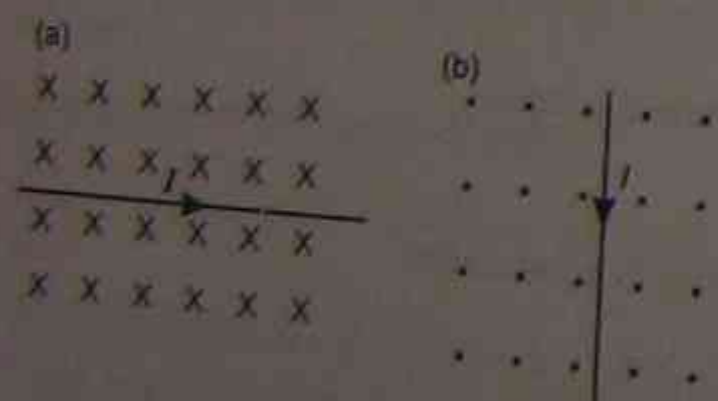

Figure 2.47
- 3 Determine the direction of the force in the following situations (Figure 2.47):